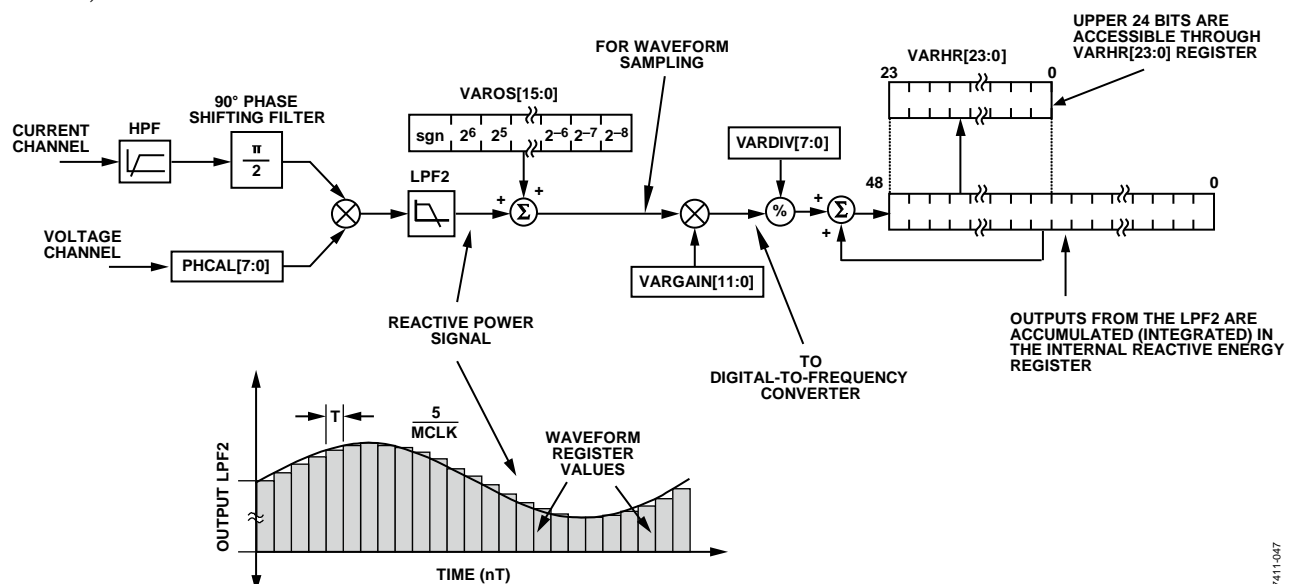

Figure 72. Reactive Energy Calculation
The instantaneous reactive power signal, $q(t)$, is generated by multiplying the voltage and current channels. In this case, the phase of the current channel is shifted by 90°. The dc component of the instantaneous reactive power signal is then extracted by a low-pass filter to obtain the reactive power information (see Figure 72).
Figure 72 shows the signal processing chain for the ADE5169/ADE5569 reactive power calculation. As explained in the Reactive Power Calculation (ADE5169/ADE5569) section, the reactive power is calculated by applying a low-pass filter to the instantaneous reactive power signal. Note that, when reading the waveform samples from the output of LPF2, the gain of the reactive energy can be adjusted by using the multiplier and by writing a twos complement, 12-bit word to the var gain register (VARGAIN, Address 0x1E[11:0]). Equation 23 shows how the gain adjustment is related to the contents of the var gain register.
The ADE5169/ADE5569 also incorporate a reactive power offset register (VAROS, Address 0x21). This is a signed, twos complement, 16-bit register that can be used to remove offsets in the reactive power calculation (see Figure 72). An offset can exist in the reactive power calculation due to crosstalk between channels on the PCB or in the IC itself. The offset calibration allows the contents of the reactive power register to be maintained at 0 when no power is being consumed.
The discrete time sample period (T) for the accumulation register in the ADE5169/ADE5569 is $1.22\ \mu\text{s}$ (5/MCLK). As well as calculating the energy, this integration removes any sinusoidal components that may be in the active power signal. Figure 72 shows this discrete time integration or accumulation. The reactive power signal in the waveform register is continuously added to the internal reactive energy register.
As shown in Figure 72, the reactive power signal is accumulated in an internal 49-bit, signed register. The reactive power signal can be read from the waveform register by setting the WAVMODE register (Address 0x0D) and setting the WFSM bit (Bit 5) in the Interrupt Enable 3 SFR (MIRQENH, Address 0xDB). Like the current and voltage channel waveform sampling modes, the waveform data is available at sample rates of 25.6 kSPS, 12.8 kSPS, 6.4 kSPS, and 3.2 kSPS.